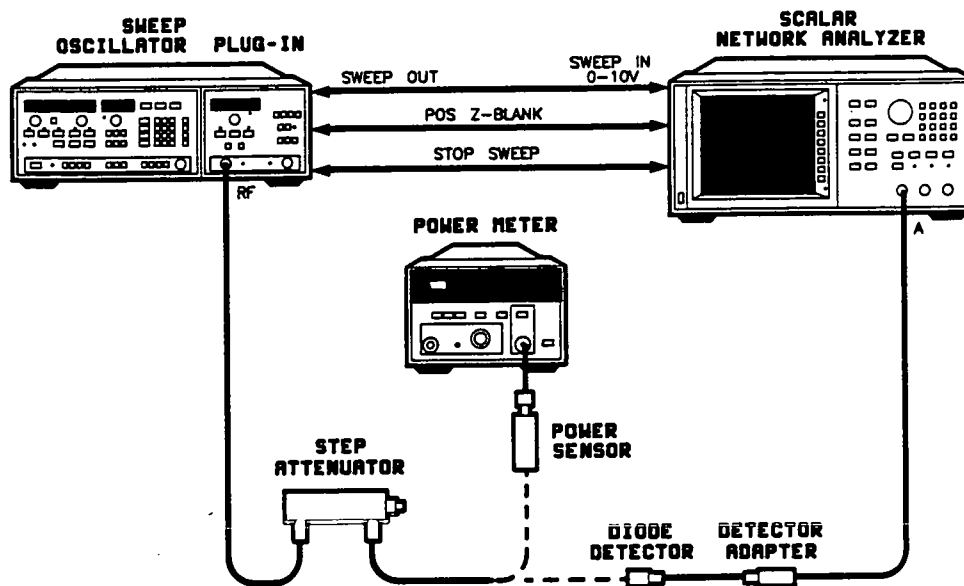

Figure 4. Test Setup
1. Set up the equipment as shown in Figure 4, with nothing connected to the output of the step attenuator. Turn on the equipment and allow 30 minutes for warm up.